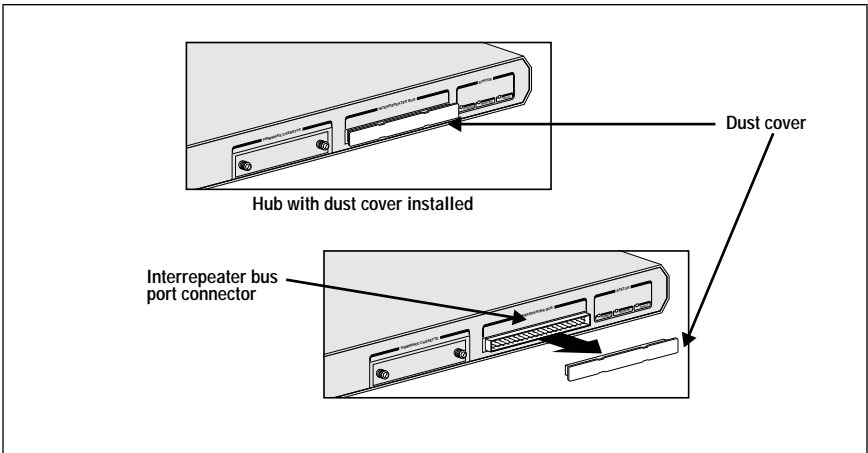

Figure 12: Removing the Dust Cover
6. Remove the dust covers from the backs of all newly-shipped ATI modules, as shown in Figure 12.
See Figure 12 on page 14 for an example.